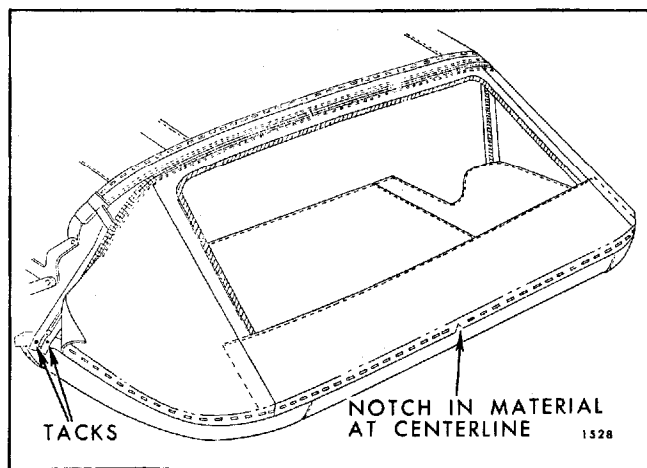

Fig. 6-53—Back Curtain Installation
NOTE: Notch in back curtain material at lower edge indicates centerline of back curtain assembly. (See Fig. 6-53). In addition, back curtain lower edge should extend approximately 1/2" below lower edge of trim sticks.
5. Tack curtain to rear and rear quarter trim sticks (Fig. 6-53). On "A & Z" Body Styles